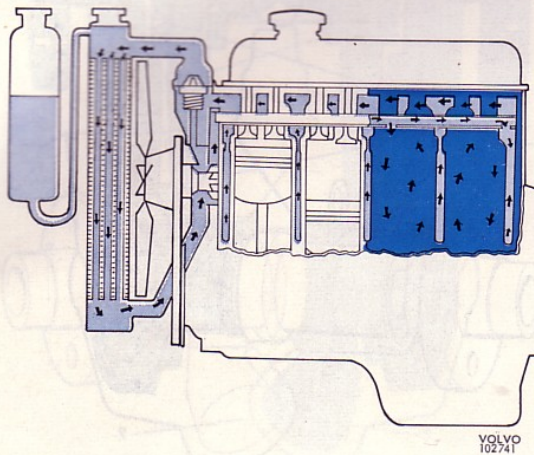
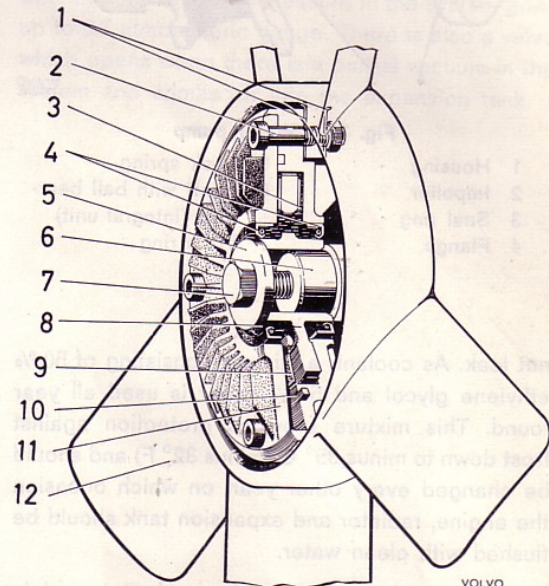
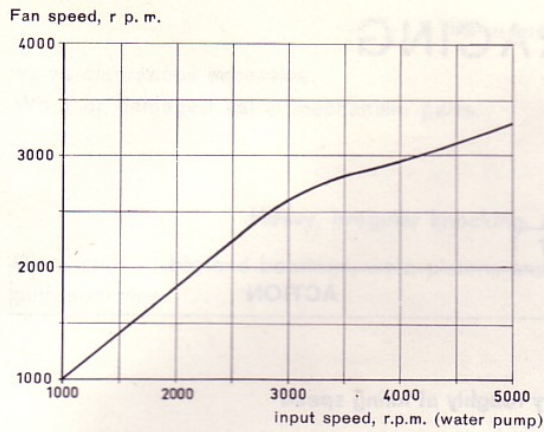

Fig. 124 Sealing cooling system
Fig. 125 Viscous fan
Fig. 131 Curve for fan coupling slip
The engine is water-cooled and the cooling system is of the sealed type, see Fig. 124. The B 20 A engine is fitted with a fixed fan. A speed-regulated fan (does not apply to models 1300 and 1800, which have a fixed fan), a so-called viscous type (see Fig. 125), is fitted on the B 20 B unit. Its function is to ensure that the fan blades do not exceed a certain speed even if the engine speed is exceeded. See Fig. 131. The five fan blades are mounted asymmetrically to keep down the noise level. The fan coupling consists of the casing (11, Fig. 125) in which the plastic fan blades (12) are secured with the bolt (2). The casing (11) has two halves which, however, cannot be separated for repairs, the fan coupling then being replaced complete. The hub (8) has a light fit on the water pump flange (6) and is locked by means of the centre bolt (7). The hub is provided with a slip disc of friction material (9) surrounded by oil. During idling and at low speeds, slipping is insignificant, so that the fan provides an air current for good cooling. When the ingoing speed (that of
the water pump) exceeds about 2600 r.p.m., the slipping increases (see Fig. 131). With this arrangement, the fan speed should never exceed about 3000–3500 r.p.m. The fan noise output would then be low compared with a fan which runs at the same high speeds as the water pump. Compared with this latter type of fan, the output loss will be less for the viscous type fan.
The fan coupling function can be checked with a stroboscope with variable blinking frequency. Make a mark on the fan and one on the water pump pulley. Find out the speed relationship between fan and pulley by means of the stroboscope. The fan speed should follow the speed of the water pump according to the curve given in Fig. 131.